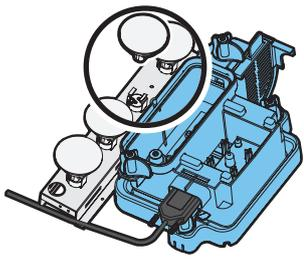

Fig.4
7. Remove the defective lamp, by gently lifting vertically and disengaging the pins from the lamp holder, (See Fig. 4 and 5). Replace with a Dimplex Opti-myst, 12V, 45W, Gu5.3 base, 8° beam angle, coloured lamp. (Purchased from www.dimplex.co.uk under the section 'After Sales Service', details of how to purchase the lamps are contained therein.)
8. Carefully insert the two pins of the new lamp into the two holes in the lamp holder. Push firmly in place. (See Fig.4 and 5).